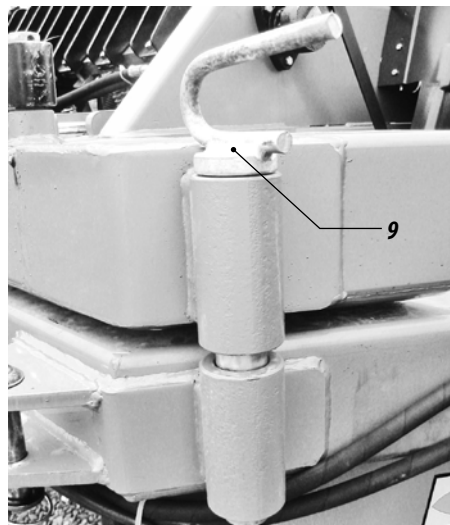

Figure 40
05 - Remove the lock pin (9) of the header, moving the tractor in order to enable the removal, figure 40.